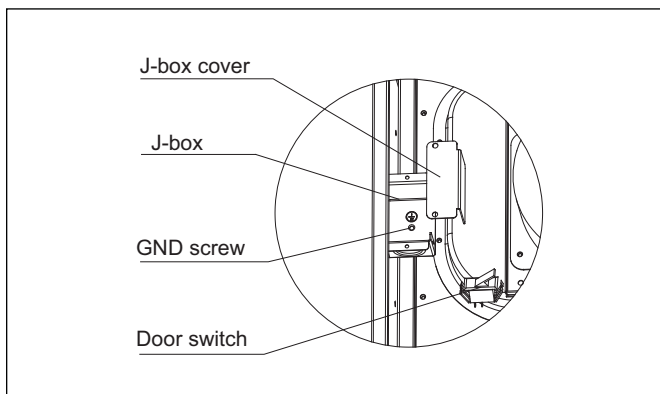

Figure 34 J-Box
1. Remove and save two screws holding J-Box (See Figure 34).
See Fig. 34 on previous page.
4. Remove and save two screws holding J-Box. (See Fig. 34.)